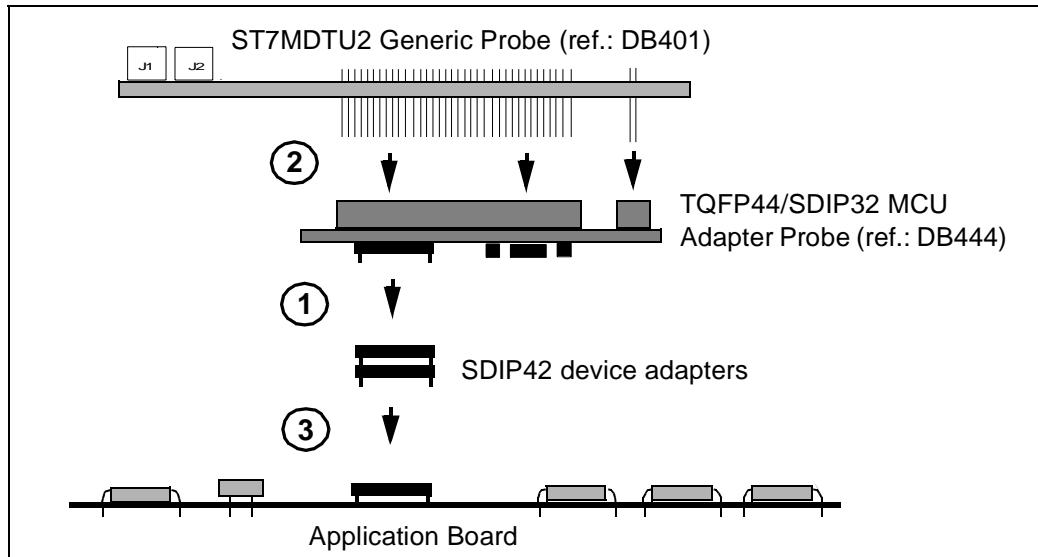

Figure 10: SDIP42 MCU package connections
B) If you are using the SDIP42 MCU package, follow these steps (see *Figure 10*):